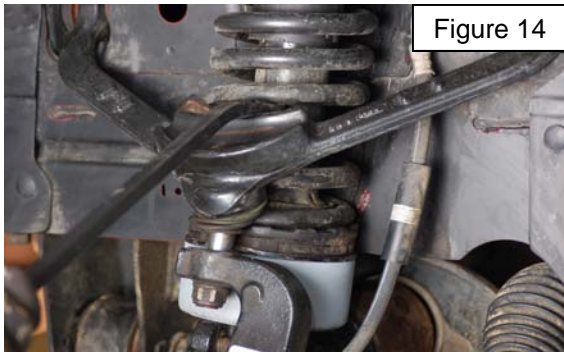

Figure 14
15. Lift the Lower Control Arm using the floor jack. As the Control Arm is moving up check clearance between the Strut Coil plate and the Unibody lip. If needed place the pry bar between them and continue up. Stop going up once the upper ball joint goes into the spindle enough to start the nut. It may be necessary to pry the upper control arm down to get the upper ball joint into the knuckle. **See Figure 14.**